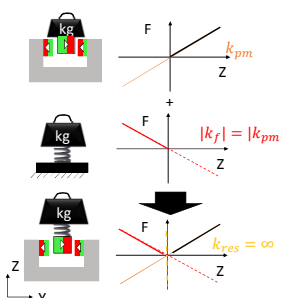

Figure 2: Spring and magnet arrangement
- Springs with the same stiffness than the PM guidance (but positive sign) are mounted over the repulsive PM. When a load is applied to the armature, the spring is compressed by the amount, the armature is lifted by the controller to achieve zero Watts levitation (Figure 2).